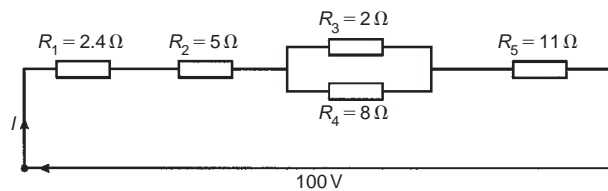

Figure RT2.1
- Resistances of $5\ \Omega$, $7\ \Omega$ and $8\ \Omega$ are connected in series. If a $10\ \text{V}$ supply voltage is connected across the arrangement determine the current flowing through and the p.d. across the $7\ \Omega$ resistor. Calculate also the power dissipated in the $8\ \Omega$ resistor. (6)
- For the series-parallel network shown in Fig. RT2.1, find (a) the supply current, (b) the current flowing through each resistor, (c) the p.d. across each resistor, (d) the total power dissipated in the circuit, (e) the cost of energy if the circuit is connected for 80 hours. Assume electrical energy costs 14p per unit. (15)
- The charge on the plates of a capacitor is $8\ \text{mC}$ when the potential between them is $4\ \text{kV}$. Determine the capacitance of the capacitor. (2)
- Two parallel rectangular plates measuring $80\ \text{mm}$ by $120\ \text{mm}$ are separated by $4\ \text{mm}$ of mica and carry an electric charge of $0.48\ \text{C}$. The voltage between the plates is $500\ \text{V}$. Calculate (a) the electric flux density (b) the electric field strength and (c) the capacitance of the capacitor, in picofarads, if the relative permittivity of mica is 5. (7)
- A $4\ \text{F}$ capacitor is connected in parallel with a $6\ \text{F}$ capacitor. This arrangement is then connected in series with a $10\ \text{F}$ capacitor. A supply p.d. of $250\ \text{V}$ is connected across the circuit. Find (a) the equivalent capacitance of the circuit, (b) the voltage across the $10\ \text{F}$ capacitor and (c) the charge on each capacitor. (7)